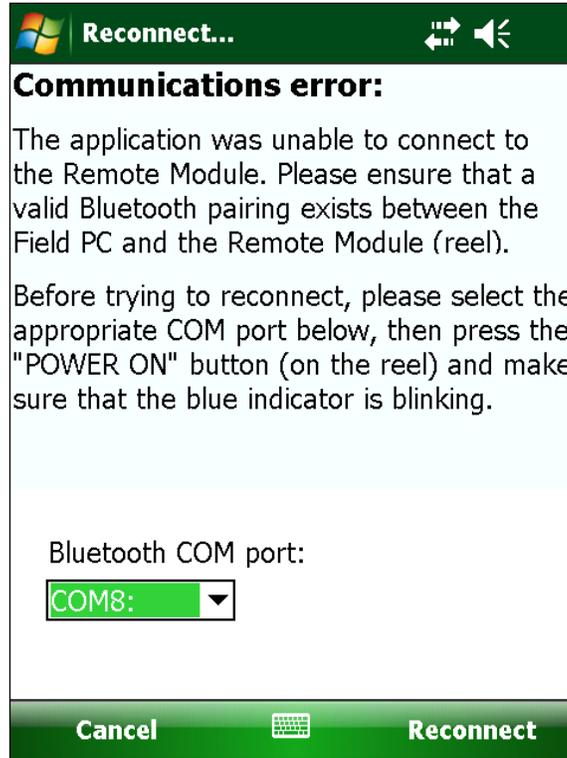
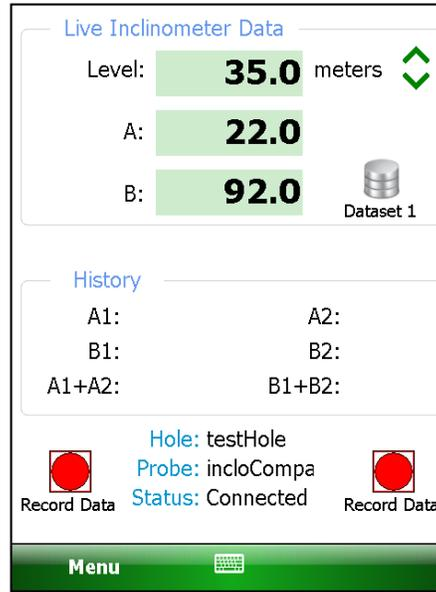

Figure 28 - Remote Module Connection Problem
Figure 32 - Live Readings Screen
8. From the “Port:” drop-down list, select a COM port. Select either COM6, COM7, or COM8. The other COM Ports are used by the system and will be unavailable. Be sure to remember the number of the COM port as you may have to select it later in the readout software (see sections 3.3.1 and 3.3.3, as well as Figure 28). Make sure to “uncheck” the “Secure Connection” check-box. Tap “Finish” when done to return to the Bluetooth Settings “COM Ports” screen.
Tapping on this menu item initiates the Remote Module connection process and after a successful connection, the Live Readings screen will be displayed (see Figure 32). Should the connection attempt fail, the window shown in Figure 28 will be displayed with suggestions for correcting any issues before re-trying.
To dismiss the “View saved data” window tap on “ok” which will then display the “Load previous data” prompt (see Figure 31). Tapping “Yes” on the Load previous data” window will load the temporary data into memory and then display “Live Readings” (see Figure 32). Tapping “No” will load “Live Readings” as normal (see Figure 32).
2) The “Live Readings” screen is displayed (Figure 32).
This feature requires an active connection to a Remote Module and will attempt to connect when invoked. If a connection cannot be made, the window shown in Figure 28 will be displayed.
None On the Live Readings Screen, the only indication of stability will be to monitor the A and B readings (see Figure 32).